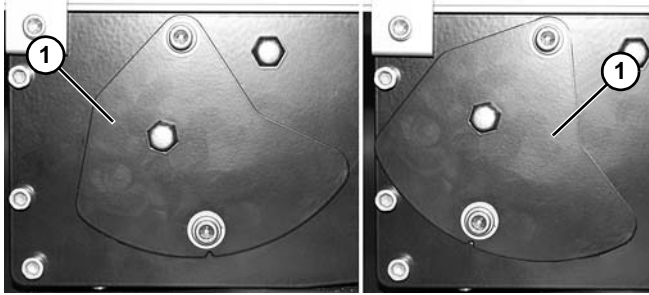

Figure 77
For a new belt, the tension plate (**Figure 77, item 1**) will be in position indicated below left. When the tension plate extends to position indicated below right, the conveyor belt must be replaced.